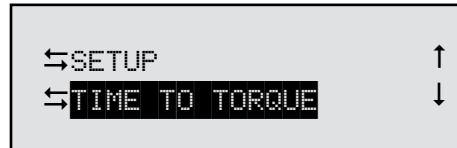

Figure IV-14
The Time Modes are provided to allow more flexibility by unattended operating of the viscometer during data gathering. The last selected option (i.e. Time to Torque or Time to Stop) will be highlighted when scrolling to this option as shown in Figure IV-14:
*Note:* When this mode has begun, a press of the MOTOR ON/OFF/ESCAPE key will cancel the Timed Stop sequence and return the user to the screen of Figure IV-14. Also note that data will be displayed in the currently selected method i.e. CGS or SI units. Pressing the SELECT DISPLAY key allows display of alternate data values such as Shear Stress, Shear Rate or Torque.
Using the UP or DOWN ARROW keys, the user selects a speed from the currently selected speed set. If you had opted to use the LVRV sequential or interleaved speed sets, all those speeds would be available by pressing the UP or DOWN ARROW keys. Conversely, if the user had selected a custom speed set, you would be limited to those speeds comprising the custom speed set. After selecting the speed, the user may press any one of three keys to continue: the OPTIONS/TAB key, the MOTOR ON/OFF/ESCAPE key and the ENTER/AUTORANGE key. If the user presses the OPTIONS/TAB key you will return to the torque input screen of Figure IV-23 where you may change the torque input if so desired. Therefore, continued pressing of the OPTIONS/TAB key will toggle between the torque input screens and the motor input screen. A press of the MOTOR ON/OFF/ESCAPE key will cancel the time to torque operation and take the user back to the screen of Figure IV-14. Finally, pressing the ENTER/AUTORANGE key will cause the DV-II+Pro to accept and store in EEPROM the new values (only) for the torque level and the selected motor speed.
*Note:* When this mode has begun, a press of the MOTOR ON/OFF/ESCAPE key will cancel the time to torque sequence and return the user to the screen of Figure IV-14.